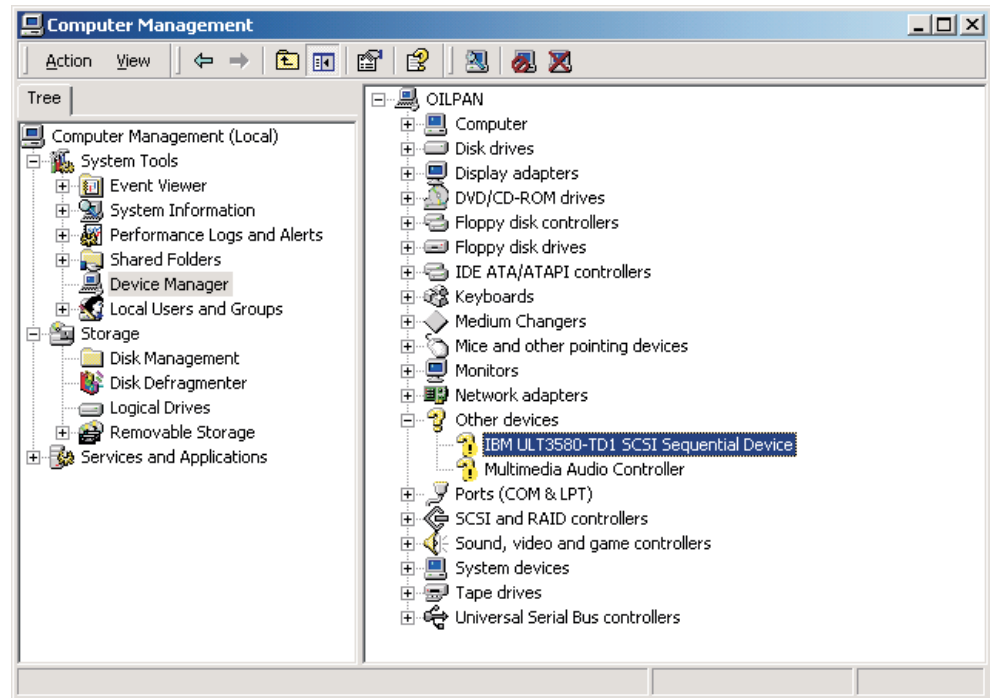

Figure 27. Computer Management Console with Ultrium Device Selected
8. In the **Device Manager** tree, find the Ultrium devices you are installing. Tape devices may be located under the Tape drives node. Changer devices may be located under the Medium Changers node. Either device may be listed as an Unknown device or may appear under the Other devices node. See Figure 27 on page 213